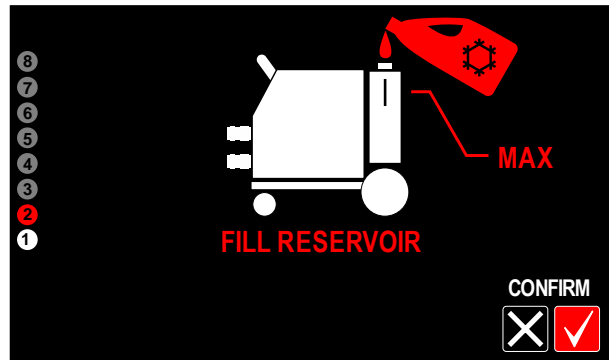

Figure 15
- Fill the coolant reservoir to the maximum level - 4 liters - (Figure 15).